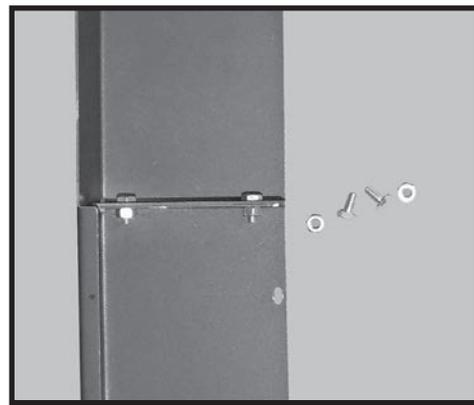

Fig. 2: Outer surround plates attachment points.
2. Using supplied nuts and bolts, attach the two vertical plates to the larger horizontal plate (Fig. 2).